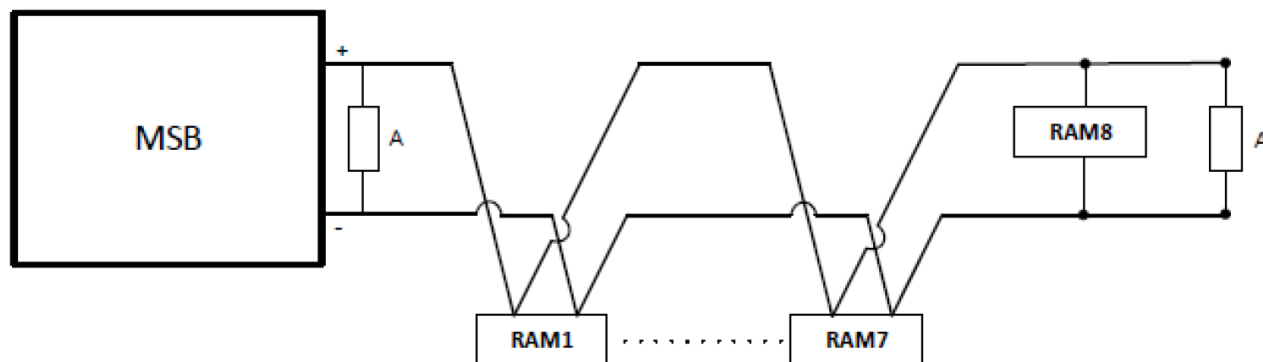
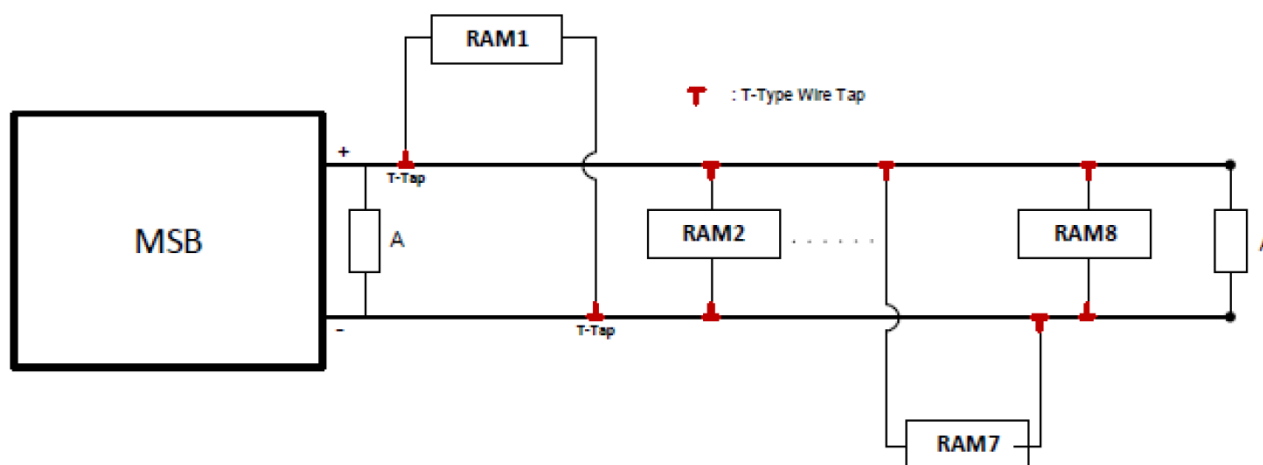

Figure 14: Bus style wiring
Figure 15: T-Tap style wiring
- For bus style wiring, the maximum wiring limit is 4,000 feet. For bus style wiring, see Figure 14.
- For T-Tap style wiring, the maximum distance to the furthest device is 2,500 feet. For T-Tap style wiring see Figure 15.
- Attach 0733-974AC (100 ohm, 1/2 W) resistor **A** as shown in Figure 14 and Figure 15 for the line matching.